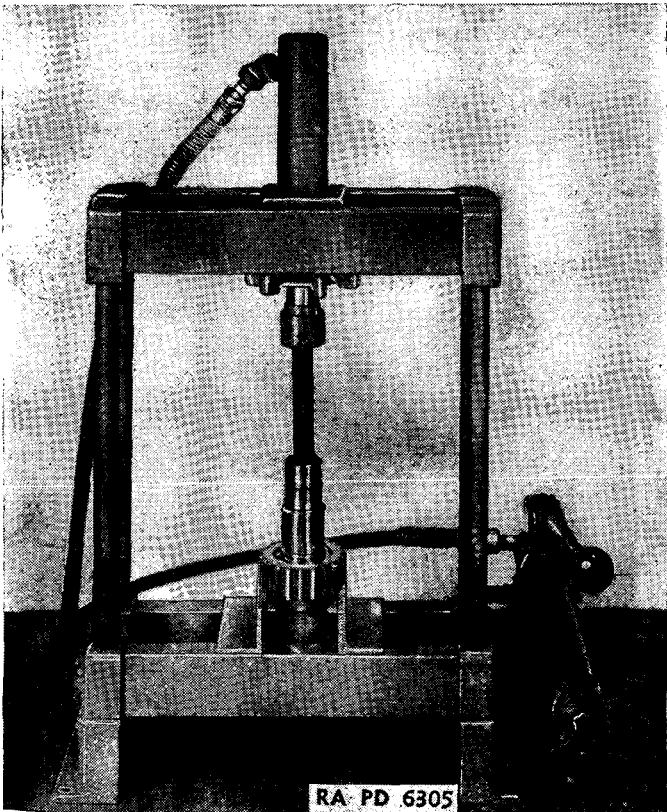

FIGURE 127.—Pressing clutch gear off front-drive shaft.
(2) Remove clutch gear—press, brass drift, hammer. Set up in press and remove clutch gear (B184255) and Woodruff key (A214828) (fig. 127).